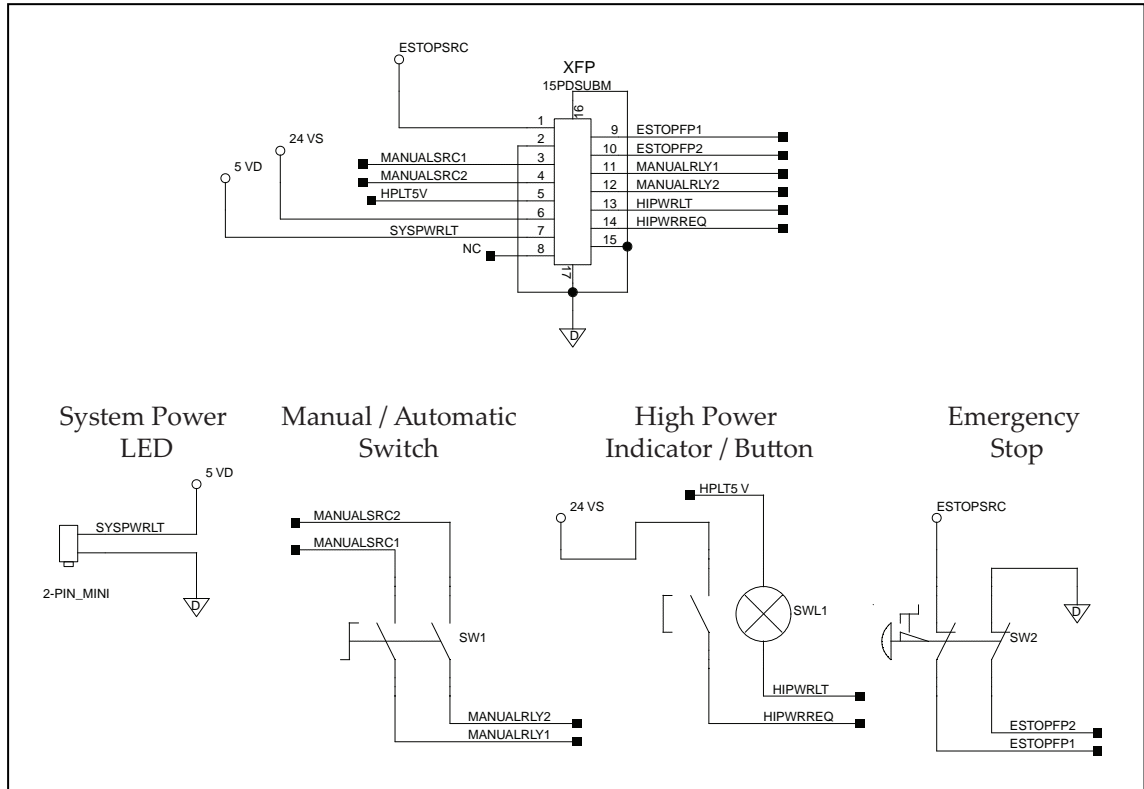
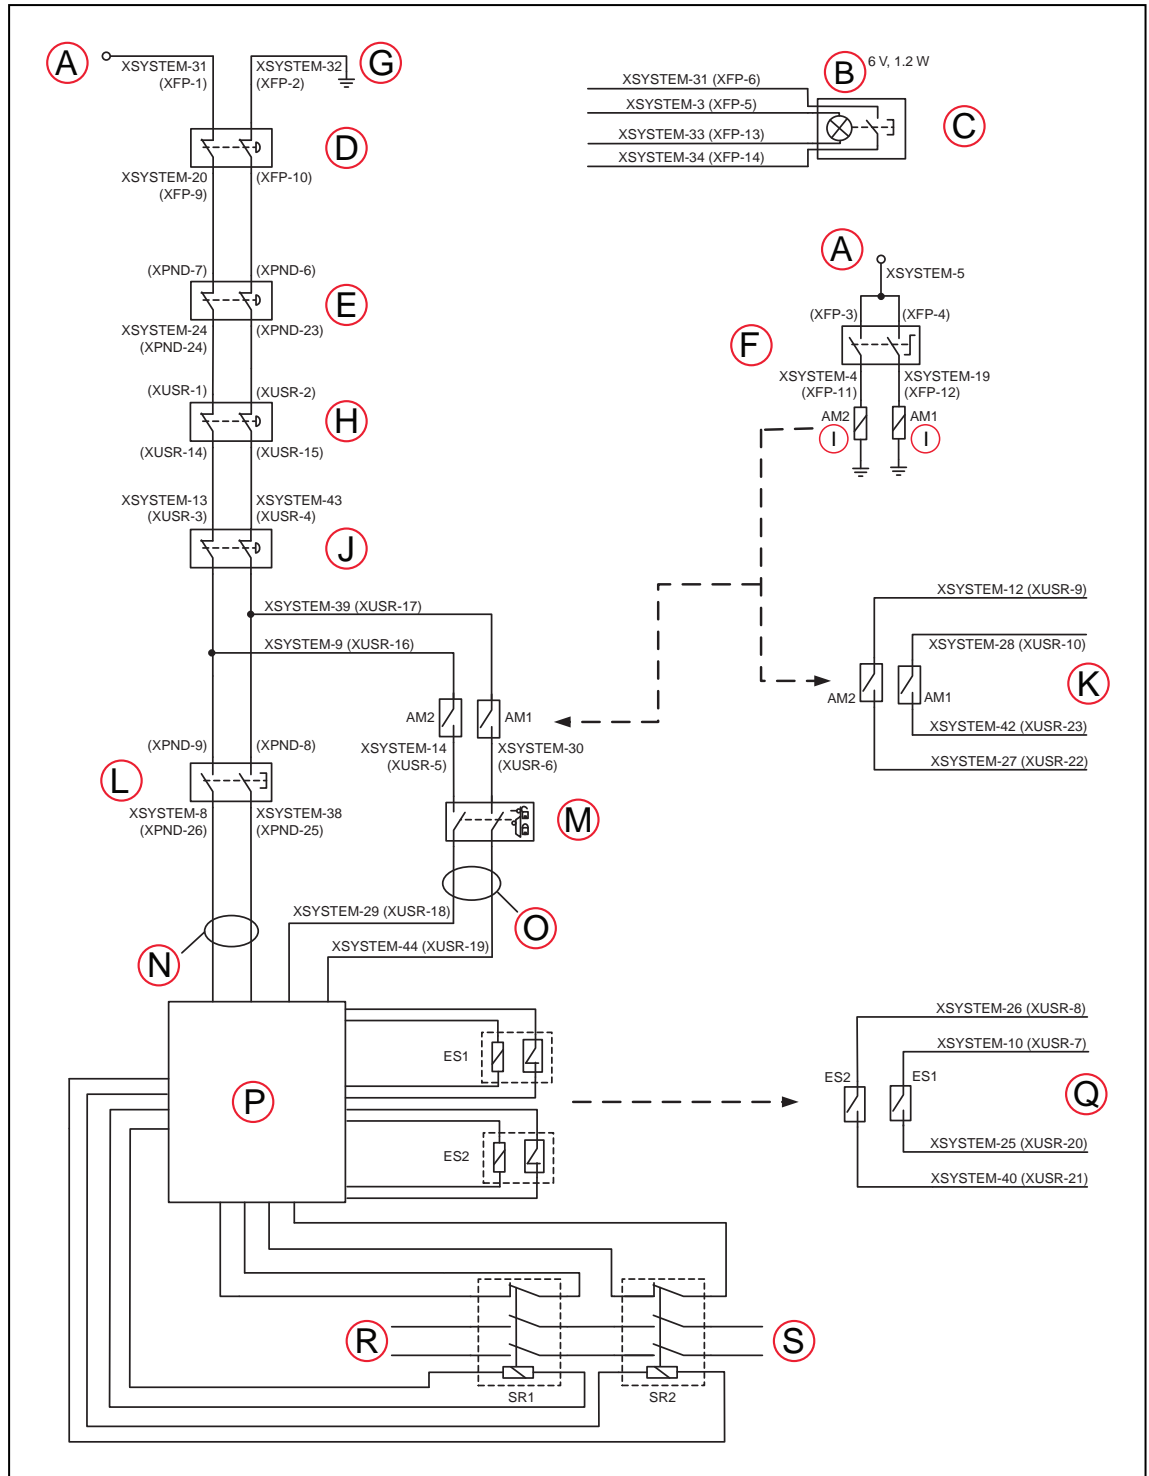

Figure 3-12. Front Panel Schematic
Figure 3-13. E-Stop Circuit on XUSR and XFP Connectors
See Figure 3-12. for a schematic diagram of the Front Panel.
**NOTE:** All pin numbers in this section correspond to the wiring diagram shown in Figure 3-13.
The XSYSTEM cable provides connections for Emergency Stop (E-Stop) circuits on the XUSR and XFP connectors. This means the controller system can duplicate E-Stop functionality from a remote location using voltage-free contacts. Refer to Figure 3-13. .
These contacts provide a method to indicate the status of the ESTOP chain, including the Front Panel Emergency Stop push-button, the pendant Emergency Stop push-button, and the User Emergency Stop Contacts. Refer to items D, E, H, J, and Q in Figure 3-13.
Two pairs of pins on the XUSR connector (pins 7, 20 and 8, 21, Figure 3-13. ) provide voltage-free contacts, one for each channel, to indicate whether the E-Stop chain on that channel, as described above, is closed. In normal operation (no E-Stop), both switches are closed on each redundant circuit. You can use these contacts to generate an E-Stop for other equipment in the workcell. The load on the contacts must not exceed 40 VDC or 30 VAC at a maximum of 1 A.
**NOTE:** Per ISO 13849 operation, a redundant, cyclically-checked, positive-drive safety relay circuit for Category 3 PL-d provides these voltage-free circuits (refer to Figure 3-13. and Figure 3-12. for the user E-Stop circuitry).
The XUSR connector on the controller contains a two-channel Line E-Stop input for workcell, production line, or other equipment emergency-stop inputs. Refer to item J in Figure 3-13.
For any situation where two systems should be cross-coupled, for example, the user E-Stop indication of one controller is to be connected to the input of another controller, the Line E-Stop input is the point to connect the other controller's output contacts. See Figure 3-13. for more information.
Two pairs of pins on the XUSR connector provide connections for a safety gate, allowing access to the workspace of the robot in Manual mode only. Refer to items M and L in Figure 3-13.
Two pairs of pins on the XUSR connector provide a voltage-free contact to indicate whether the Front Panel and/or remote Manual / Automatic switches are closed. Refer to item K in Figure 3-13. You can use these contacts to control other mechanisms (for example, conveyor, linear modules, etc.) when Manual mode is selected.
normally-open contacts from a user-supplied momentary push-button switch. Refer to items B and C in Figure 3-13.